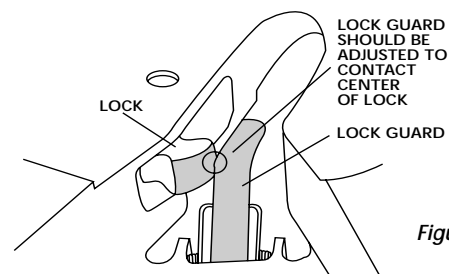

Figure 11
8. Replace lock guard (*Items 19-21*) and adjust. When properly adjusted, the center of the swing lock (*Item 16B*) must contact the lock guard (*Item 19*). (See *Figure 11*.)